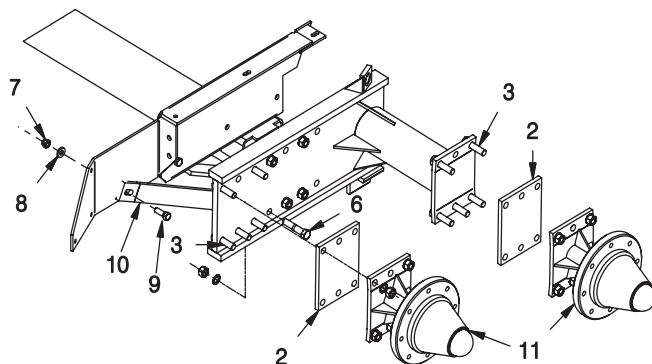

Figure 2 - Mounting Spacer Plate, Hub & Spindles
B. Place (1) F000007705 RH Brace on the axle as shown in Figure 2. Place (2) F000007636 Spacer Plates on the tandem plate as shown in Figure 2. Place (2) F000008003 Hub and Spindle assemblies as shown in Figure 2. Place all bolts, star washers, and nuts so the hub and spindle are secure. Torque all nuts and bolts as per torque chart on page 1.